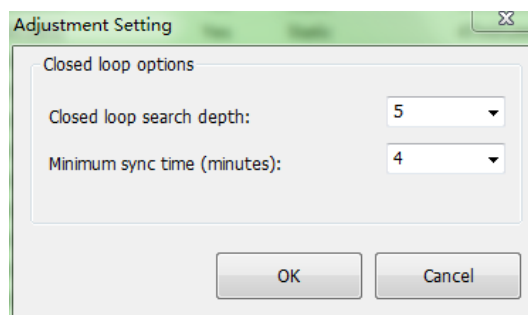

Figure 3-12
1) Adjustment Setting (show in Figure 3-12)